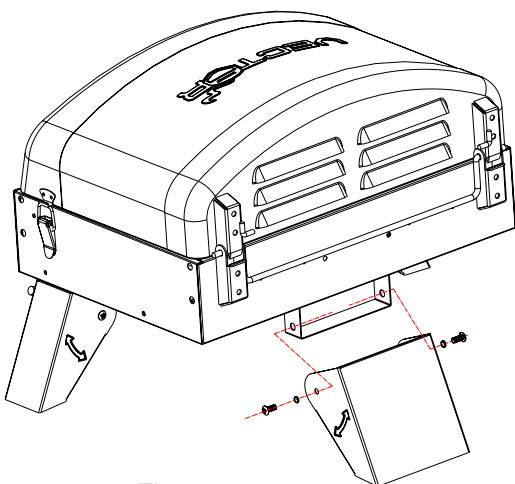

Fig. 2
*Locate:* Rear Supporting Leg, (2) spring washers and (2) M6x12 bolts
*Procedure:* Attach the Rear Supporting Leg to the Grill Lid and Firebox Assembly using, (2) spring washers and (2) M6x12 bolts as shown in Fig. 2.